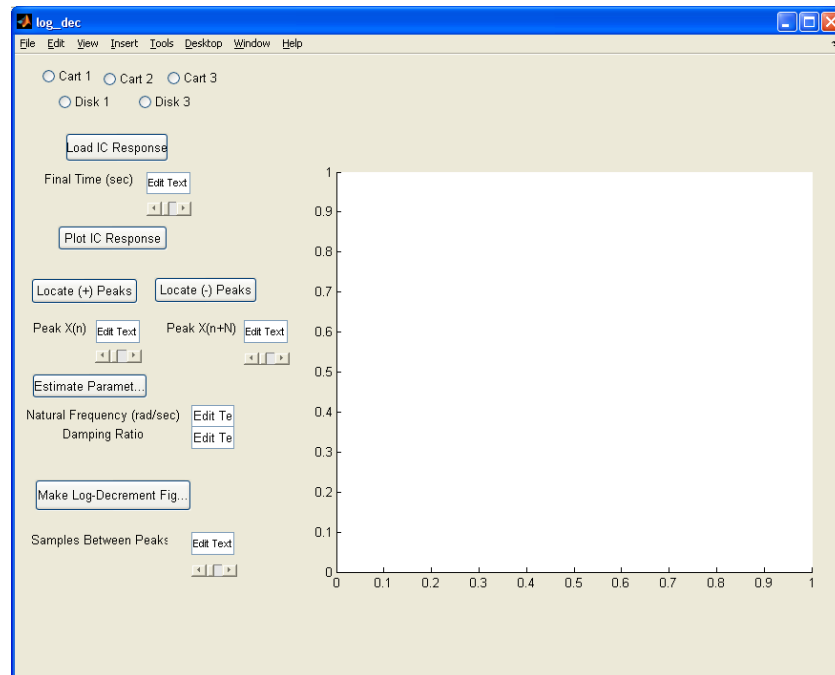

Figure 8: Model210_Openloop/ECP model 210
- The program **log_dec** produces the GUI shown in Figure 8